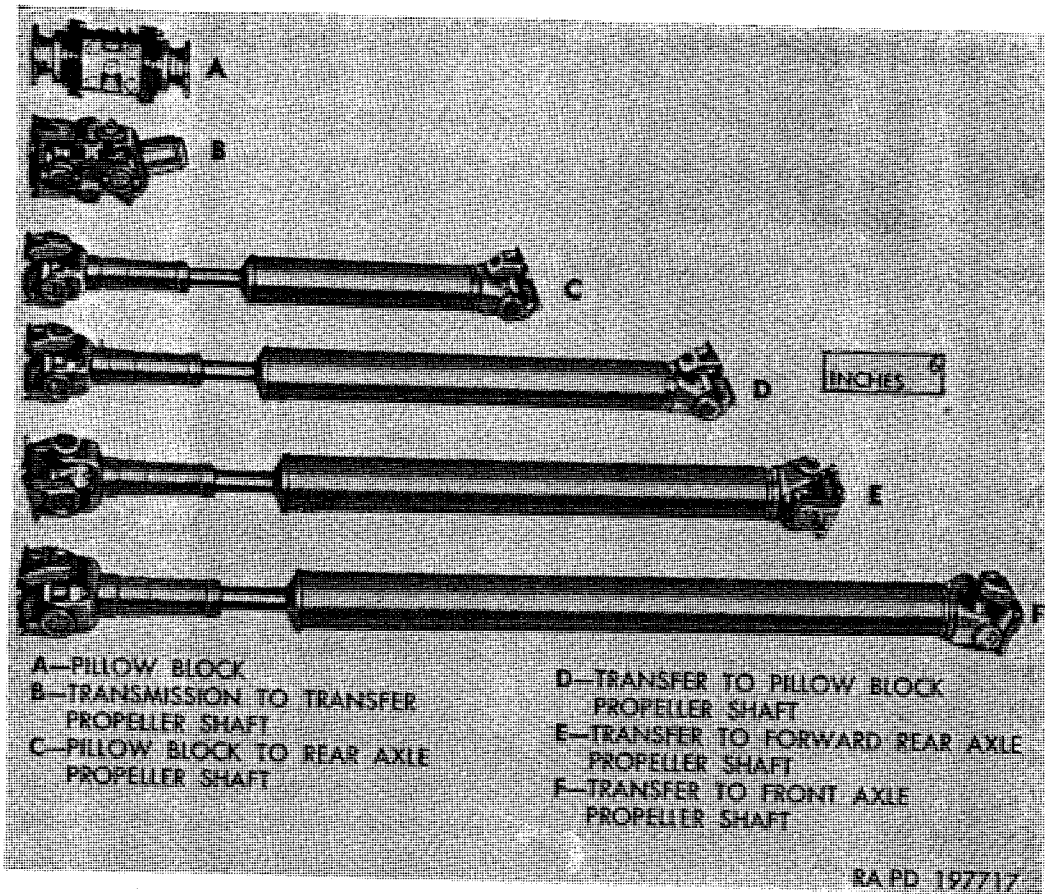

Figure 239. Pillow block and propeller shaft assemblies removed.
b. Axle Propeller Shaft Removal. Remove four bolts and nuts at each end of shaft attaching universal joint flange to drive or driven unit flange; then remove complete shaft assembly (C, D, E, or F, fig. 239).
a. General. The four axle propeller shaft assemblies (C, D, E, and F, fig. 239) are identical in construction except lengths of tubular shaft and stub shaft assemblies. Each shaft has a slip joint at one end to permit telescopic action of shaft during operation. One half of the slip joint is a splined solid stub shaft welded to tubular shaft. The slip joint sleeve yoke assembly (G) fits over the stub shaft splines, thus forming the slip joint. Universal joints should be repaired whenever excessive wear is indicated by looseness in bearing
- (1) *Cleaning.* Clean all parts thoroughly with dry-cleaning solvent or volatile mineral spirits. Upon installation, use new bearing gasket retainers (E) and bearing gaskets (D) on journal.
- (a) *Shaft assemblies.* The shaft assemblies with stub shaft and yoke are of different lengths (fig. 239), depending on location. Examine shaft assembly for bent condition. Each shaft is balanced and no attempt should be made to repair a shaft. If shaft is bent, or if yoke or splines are damaged, replace shaft.
- (b) *Universal joint flange yokes.* Inspect universal joint flange yokes (A) for damage. Replace yokes if damaged. Do not attempt to repair yokes.
- (c) *Slip joint sleeve yoke.* Thoroughly clean out interior of slip joint sleeve yoke assembly (G). Inspect yoke for dam-
a. Description. The propeller shaft assembly between transmission and transfer (B, fig. 239) consists of two universal joint assemblies bolted together to form a propeller shaft assembly. The sleeve yoke assembly (R) fits on splined output shaft of transmission to form a slip joint. The flange yoke (Q) bolts to a companion flange on transfer input shaft. Needle-type roller bearing assemblies are used at each universal joint. Universal joints should be repaired whenever excessive wear is indicated by looseness in bearings. A kit for repair of universal joints consists of one journal assembly, four bearing assemblies, four bearing caps (when used), two lubrication fittings, eight cap screws, and four lock straps; the journal assembly includes gaskets and retainers.